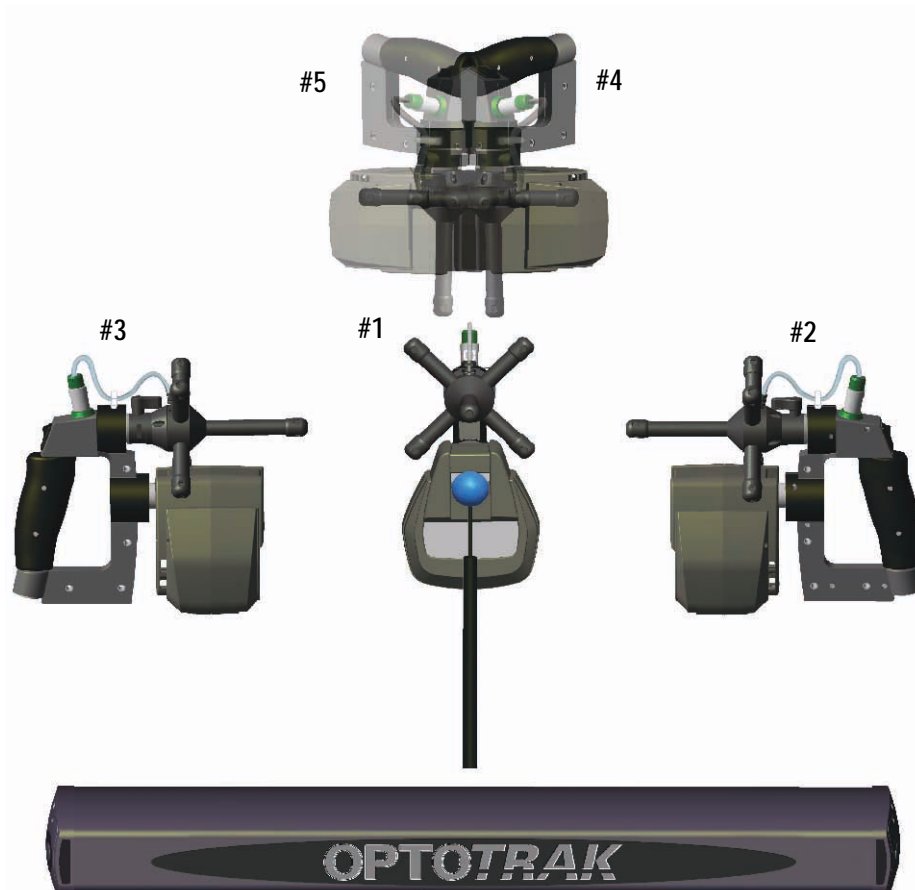
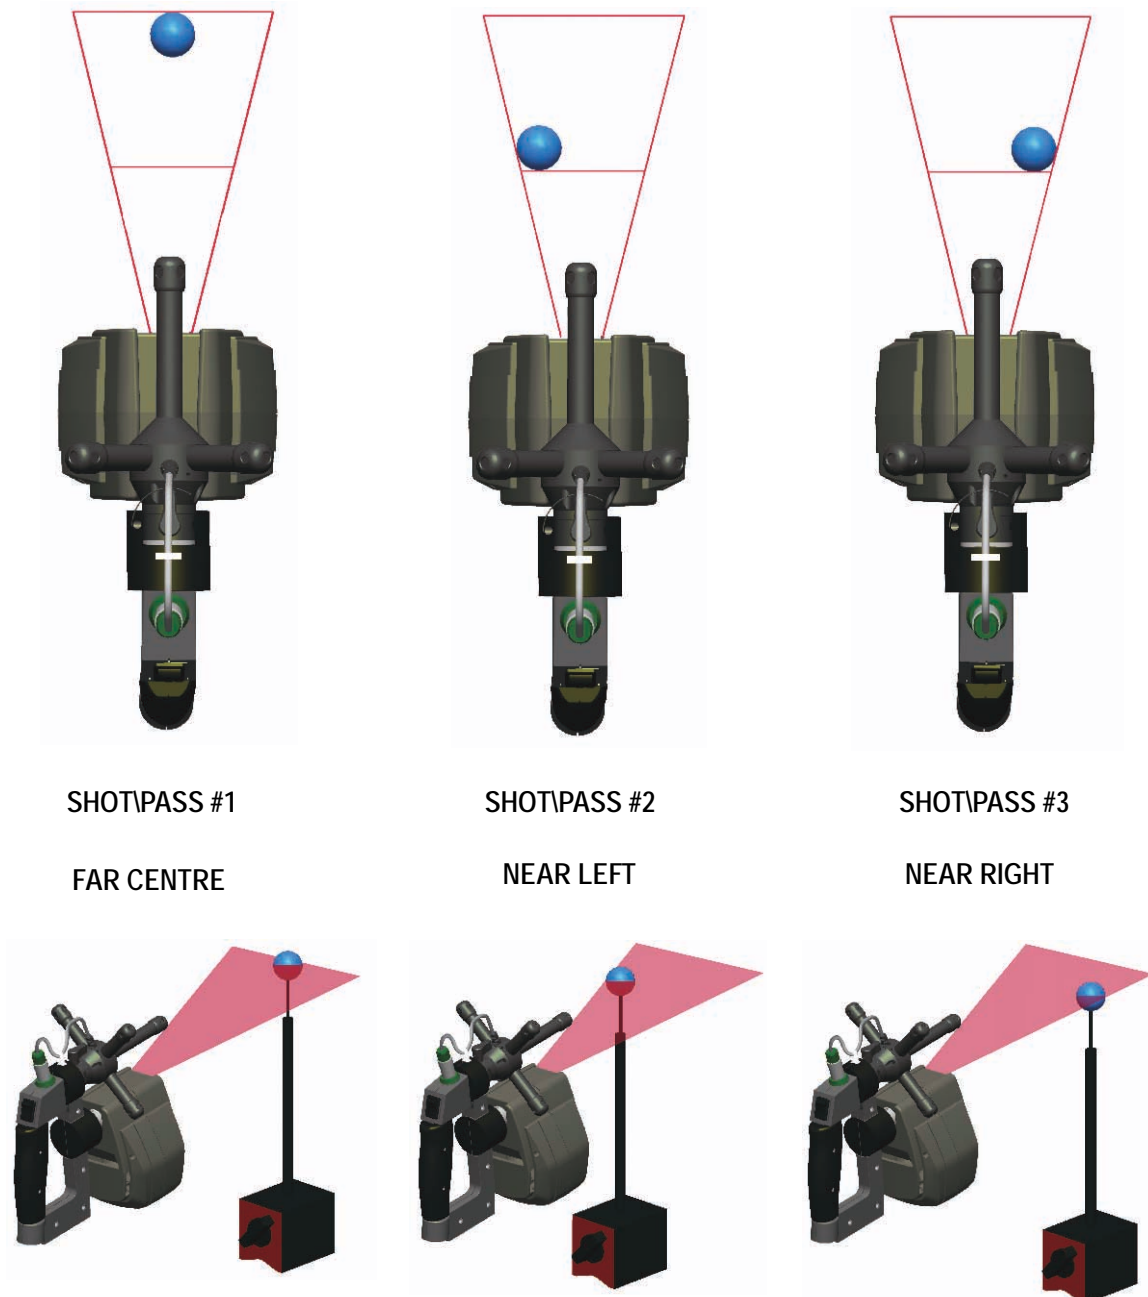
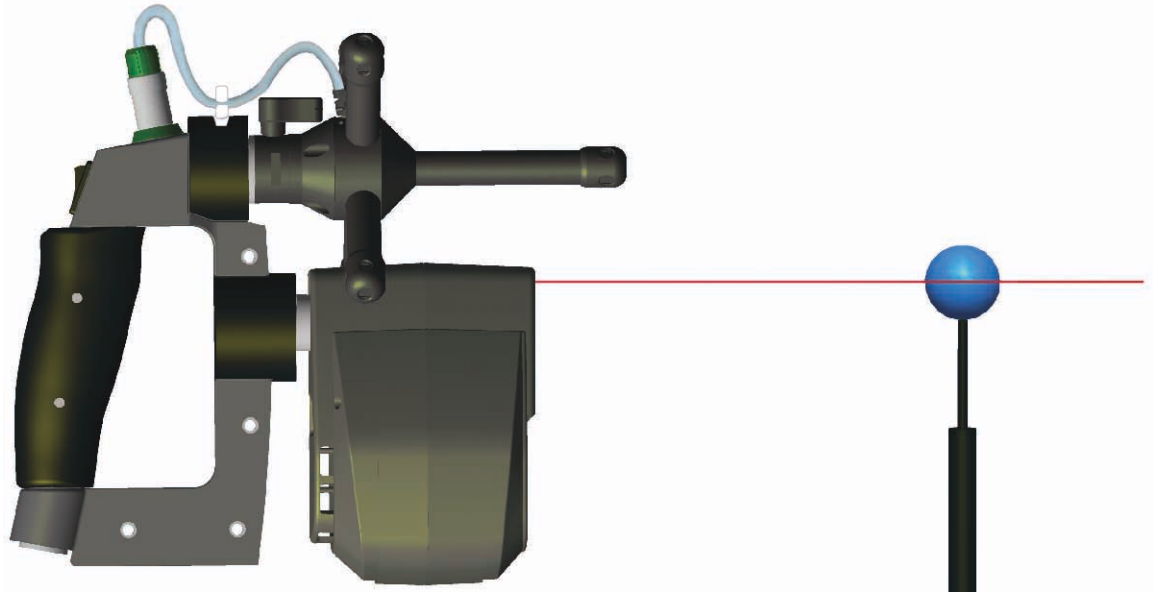

Figure 3-3 ScanTRAK Scanner Calibration Positions
Figure 3-4 Scan Shot and Scan Pass Calibration Position Variations
Figure 3-6 Scan Shot Aiming
For the *Scan Shot* Calibration, at each of the five main positions, the calibration wizard will prompt you to position the V5 sensor for three scan shots, as shown in Figure 3-4.
For the *Scan Pass* Calibration, at each of the five main positions, you must position the V5 sensor for three scan passes, as shown in Figure 3-4.
Position Indicator This indicates the orientation from which the system is currently acquiring data. **Positions 2 and 3 as indicated by this animated diagram are different from the correct positions 2 and 3 for ScanTRAK scan shot and scan pass calibrations.** For the correct ScanTRAK positions, see Figure 3-3 on page 12.
Demonstrate This displays a video showing how to perform a Z-Scale Verification or a Scan Shot Calibration, depending on the system status when the button is selected. **Positions 2 and 3 as depicted in the video are different from the correct positions 2 and 3 for ScanTRAK scanner calibration, which are shown by Figure 3-3 on page 12.**
The Scan Shot Calibration procedure requires you to place the ScanTRAK scanner's laser stripe across the diameter of the calibration sphere in 5 different positions, as shown in Figure 3-3. Each position has three variations, or "shots", for a total of 15 scan shots, as shown in Figure 3-4. The *ScanWorks Calibration Wizard* and the **Calibration** window assist you throughout the procedure. When completing scan shots, use the correct method as shown by Figure 3-6.
The Scan Pass Calibration procedure requires you to scan the surface of the calibration sphere in 5 different positions, as shown in Figure 3-3 on page 12. Each position has three variations, for a total of 15 scan passes, as shown in Figure 3-4 on page 13.
3. Prepare for the first scan pass by placing the scanner at Position #1, Pass #1, as shown in Figure 3-3 on page 12 and Figure 3-4 on page 13.
5. Repeat step 4 for every calibration position shown by Figure 3-3 and every variation shown by Figure 3-4, for a total of 15 scan passes.